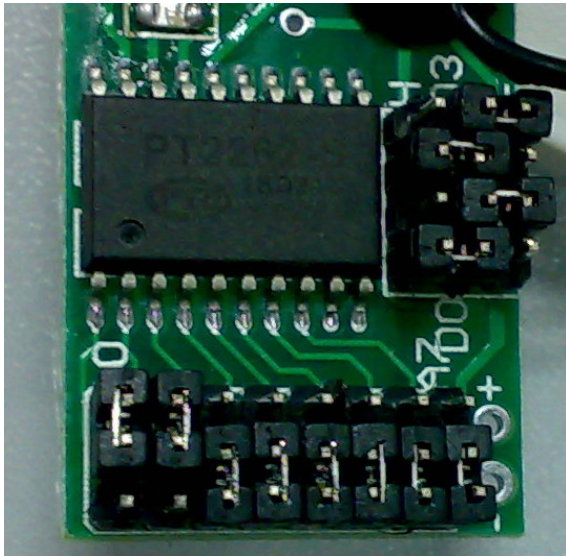

Fig.7 Wireless glass sensor DIP switch
2. Carefully flip over the smaller DIP switch PCB as shown in Fig. 7.